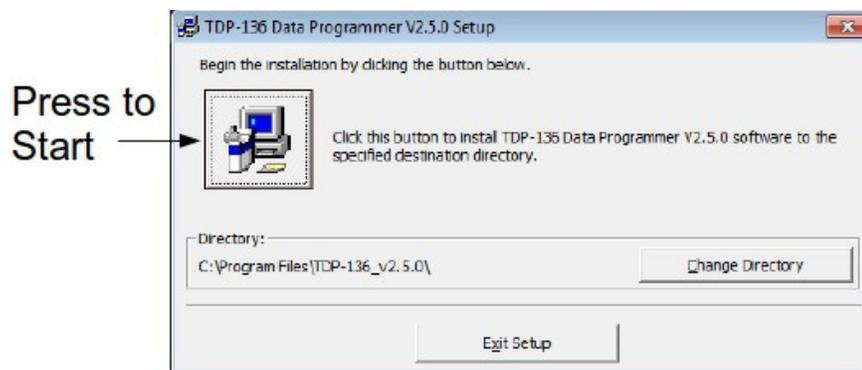

Figure 2-1. TiL TDP Installation Dialog
2. After setup finishes unpacking the software, a dialog box will pop up with the option to install the software, see figure 2-1. Additionally you can specify a different install directory if you wish.